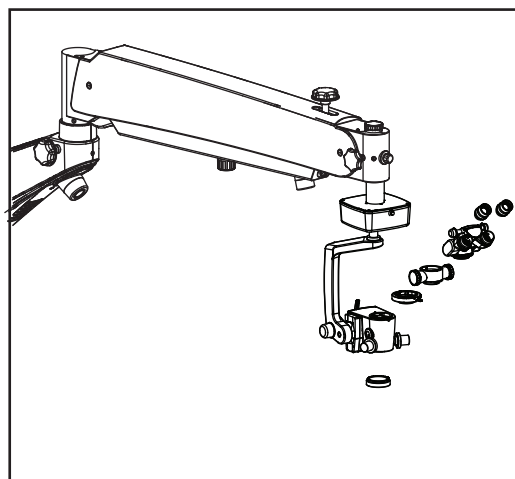

Fig. 32
1. The objectives can be taken out by rotating it in anti-clock wise direction. It can be threaded in by rotating in clock wise direction.fig 32